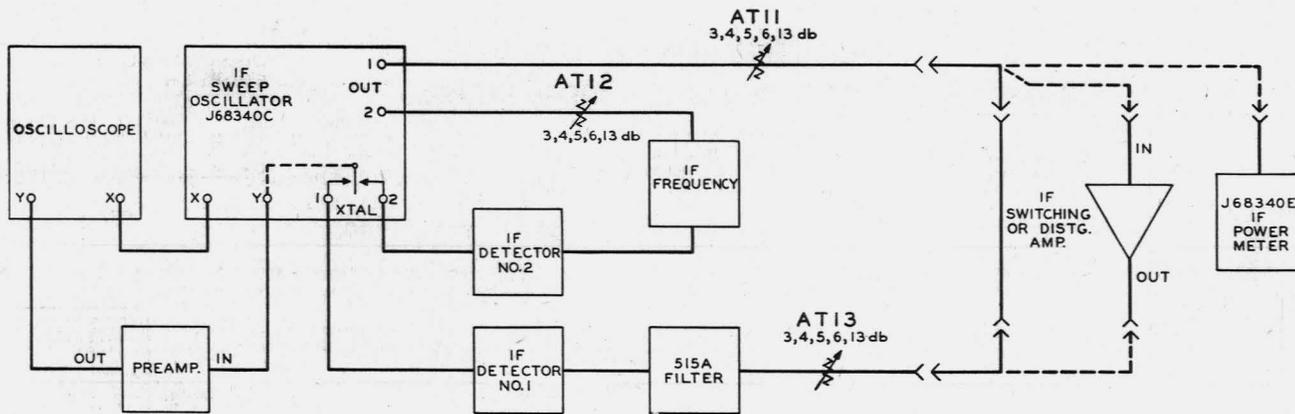

Fig. 1 - Transmission Test Setup for IF Switching and Distributing Amplifiers
2.03 The test setup used to measure gain and check the gain-frequency characteristic is shown in Fig. 1. The branch circuit containing AT12, the IF frequency meter, and IF detector No. 2 is the reference circuit and the trace appearing on the oscilloscope corresponding to transmission through this circuit is the reference trace. The branch circuit containing AT11, AT13, the 515A Filter, and IF detector No. 1, is the test circuit and the trace appearing on the oscilloscope corresponding to transmission through this circuit is the test trace whether the circuit contains the amplifier under test or simply a patch connection between AT11 and AT13.